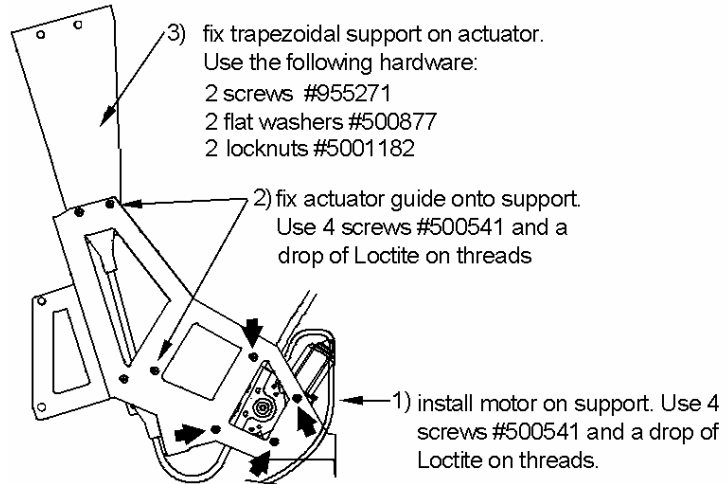

FIGURE 8
9. Assemble motor, support and trapezoidal support. Follow steps 1 up to 3 of figure 8.